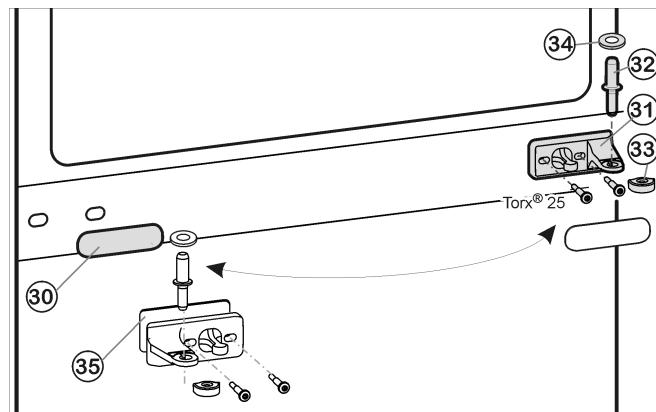
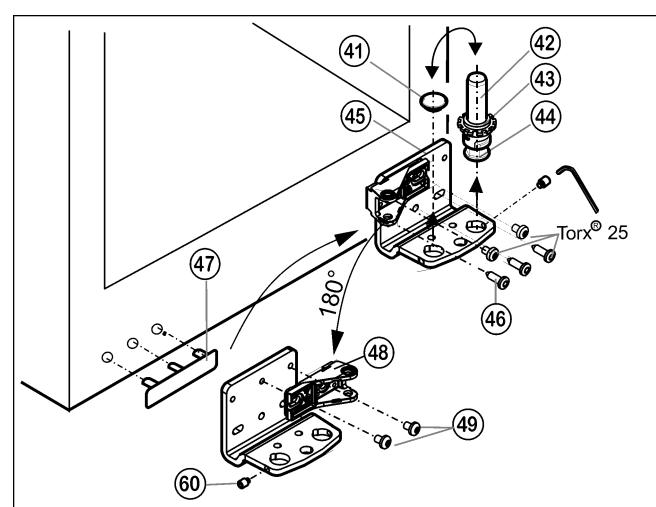

Fig. 11
Fig. 12
- Pull center bearing pin Fig. 11 (32) and disc Fig. 11 (34) out of the bearing bracket and the lower door.
- Remove plastic cap Fig. 11 (33).
- Unscrew center bearing bracket Fig. 11 (31) (2 x Torx® 25).
- Carefully remove cover trim Fig. 11 (30).
- Turn the center bearing bracket Fig. 11 (31) and washer Fig. 11 (35) 180° and secure **tightly (to 4 Nm)** on the new hinge side.
- Turn the cover trim Fig. 11 (30) 180° and snap it back into place on the new handle side.
- Unscrew grub screw Fig. 12 (60) by approx. 1 turn using the socket wrench supplied.
- Unscrew the bearing pin Fig. 12 (42), with disc Fig. 12 (43) and positioning foot Fig. 12 (44), in an upwards direction.
- Lift off plug Fig. 12 (41).
- Unscrew Fig. 12 (46) bearing bracket Fig. 12 (45).
- Completely unscrew the grub screw Fig. 12 (60) and screw it into the opposite side of the bearing bracket until it is externally flush with the bearing bracket.
- Unscrew bearing part Fig. 12 (48), turn it 180° and tighten Fig. 12 (49) it to the inside.
- Insert plug Fig. 12 (41) back into the other hole.
- Carefully lift off the cover on the handle side Fig. 12 (47) and move it to the opposite side.
- Using a cordless screwdriver if necessary, again secure the bearing bracket Fig. 12 (45) on the new hinge side **tightly (to 4 Nm)**.
- Screw complete bearing pin Fig. 12 (42), with disc and positioning foot, back into place again.
- Tighten grub screw Fig. 12 (60).
- Position the lower door from above onto the lower bearing pins Fig. 12 (42).
- Place the plastic cap Fig. 11 (33) back onto the center bearing bracket Fig. 11 (31).
- Insert the center bearing pin Fig. 11 (32) on the new hinge side through the center bearing bracket Fig. 11 (31) into the lower door.
- Place disc Fig. 11 (34) onto the center bearing pin Fig. 11 (32).
- Place the upper door onto the center bearing pin Fig. 11 (32).
- Align the doors flush with the appliance housing, using the two oblong holes in the lower bearing bracket Fig. 12 (45) and in the center bearing bracket Fig. 11 (31) as a guide, if needed. To do so, unscrew the center screw on the lower bearing bracket Fig. 12 (45).